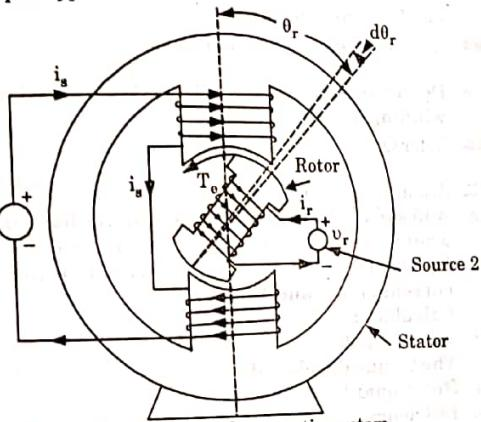

Fig. 3. Doubly-excited magnetic system.
2. Fig. 3 illustrates a simple model of a doubly excited magnetic system. This model consists of stator iron, rotor iron and both are of the salient pole type.
5. The differential electrical energy input  $dW_{elec}$  from two energy sources 1 and 2, in Fig. 3, is